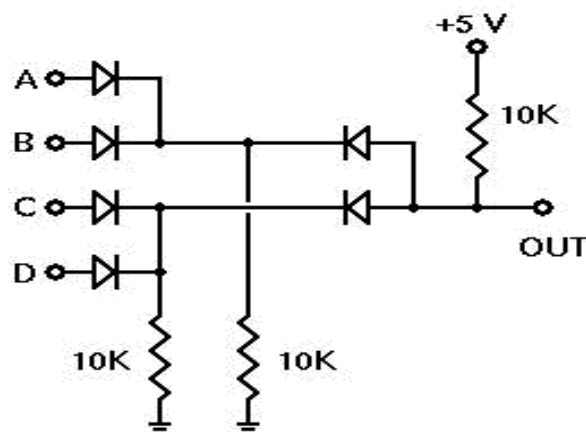
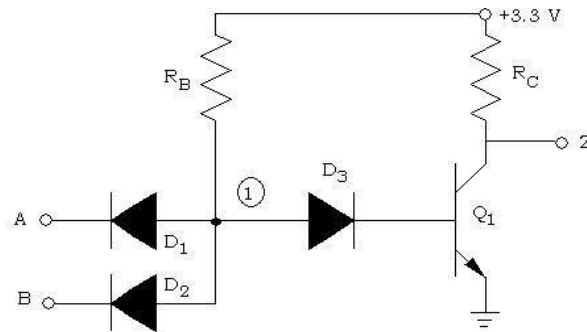

Fig.3 DL-AND-OR Gate
Fig 8: 2-input DTL NAND Gate
3. We constructed the DL-AND-OR gate on the breadboard as shown in Fig. 3. Before beginning the experiment, we calculated the expected results for all the different input combinations and put them
- (1) We have set up the circuit for 2-input DL AND -OR gate as shown in Fig.3, 2-input DTL NAND Gate as shown in Fig.8 and 2-input TTL NOR gate as shown in Fig.10
- (2) For each input combination, we have found the output and placed them in a Truth Table.
- (3) Lastly, we have simulated the circuit and compared experimental and simulated outputs.